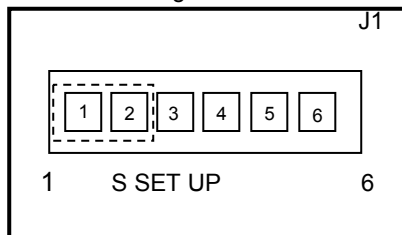

Figure 13
11. Position the jumper on pins **1** and **2** of the **J1 (S SET UP)** header. (Refer to Figure 13).